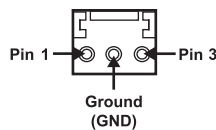

Figure 5.2 LTC Wiring — 3-Pin Terminal Block Connector
- The left and right pins are the two signals while the center pin is the common Ground (GND). Ross Video does not supply this cable. Refer to **Figure 5.2**.